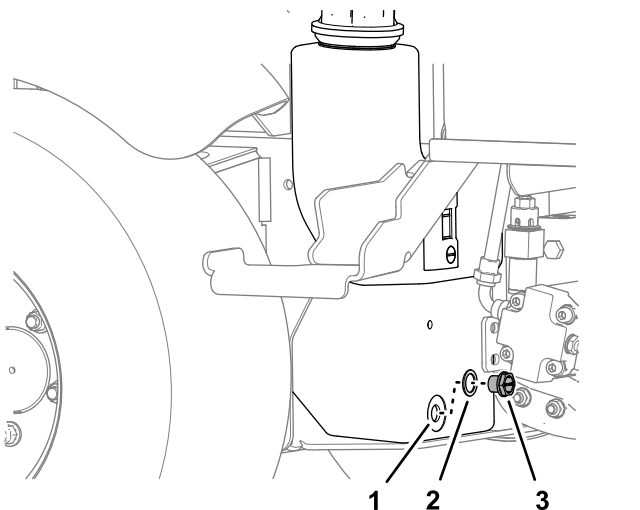

Figure 72
- Align a drain pan under the hydraulic tank, remove the tank drain plug, and fully drain the hydraulic fluid (Figure 72).